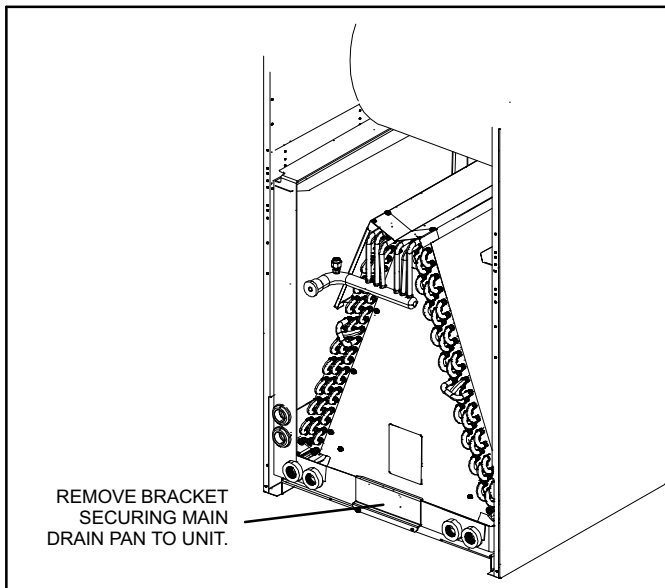

Figure 4. Remove Main Drain Pan Mounting Bracket (-018 through -036)
- Remove bracket(s) securing pan(s) to unit as illustrated in figures 4 and 5.